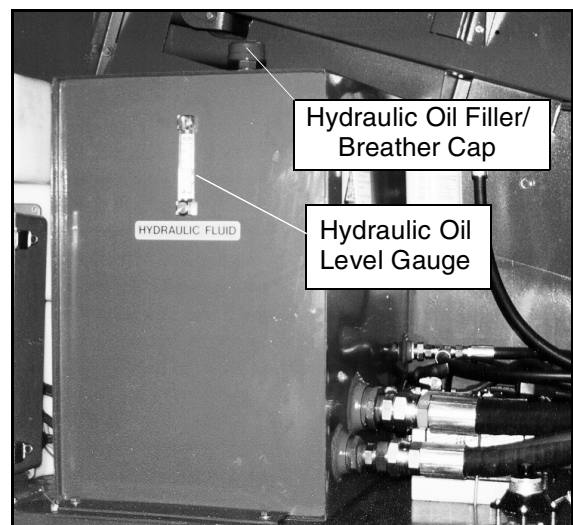

Figure 2-9: Hydraulic Oil Tank
1. Open left turret cover and check oil level at sight gauge with the boom stowed and retracted. Engine running or stopped. (see Figure 2-9)